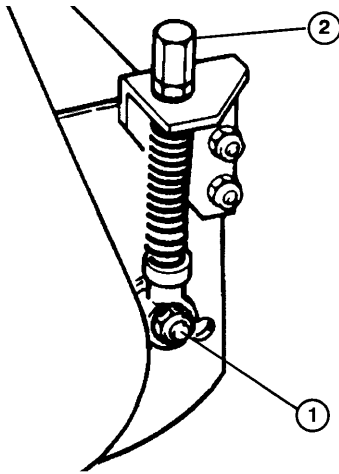

Figure 1
- B. If there is no contact, loosen the adjuster locking nut on each adjuster (Fig. 1). Then, equally turn each adjuster knob clockwise until light contact is felt and heard.
1. Lock each cutting unit in the fixed position (Refer to Cutting Unit Orientation, Fig. 1). Set the reel-to-